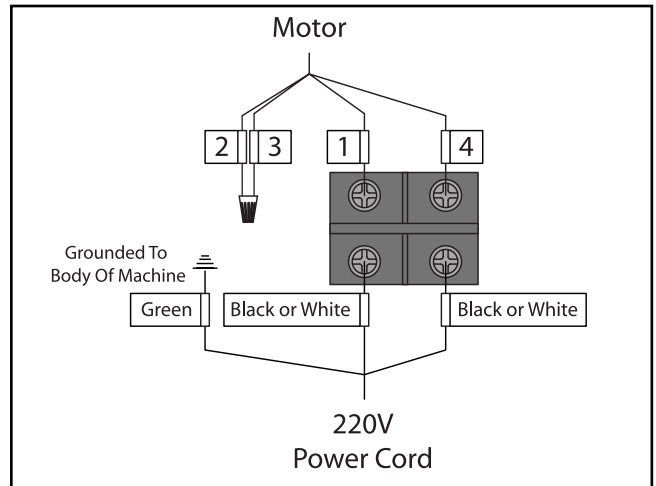

Figure 29. G0518 220V wiring.
5. Follow the wiring diagram in **Figure 29** to wire the Model G0518 for 220V.